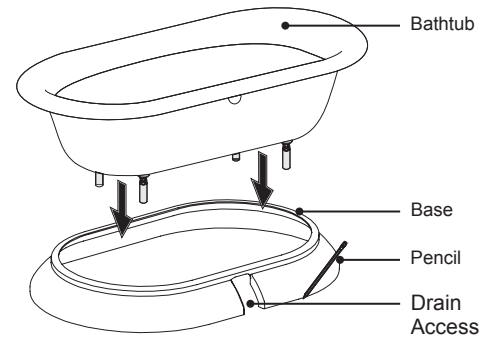

Figure 27. Bathtub Placement
- Using a pencil, outline the pedestal base, taking note where the drain access is located (Figure 27).